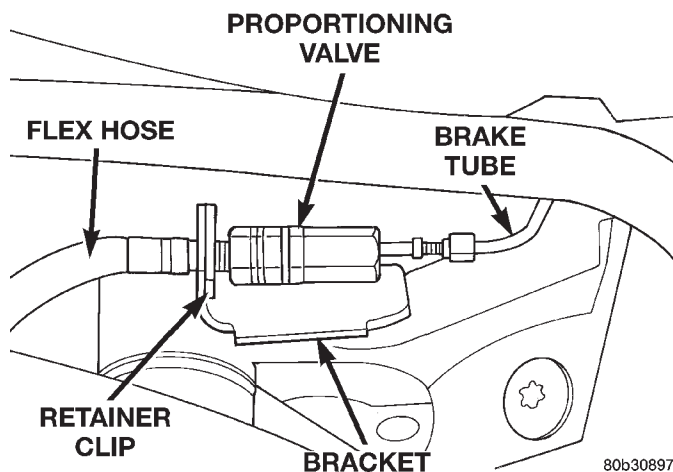

Fig. 60 Proportioning Valve
(1) Raise the vehicle on jack stands or centered on a hoist. See hoisting in the Lubrication and Maintenance section of this manual.
(2) Clean any debris away from the proportioning valve, connections, and area.
(3) Remove the chassis brake tube (Fig. 60) from the proportioning valve.
(1) Install the proportioning valve to the rear brake flex hose. Tighten to a torque of 17 N·m (145 in. lbs.).
(2) Install the chassis brake tube to the proportioning valve (Fig. 60). Tighten the tube nut to a torque of 17 N·m (145 in. lbs.).
(3) Bleed the affected brake line. See Bleeding Brake System in the Service Adjustments section of the manual for proper bleeding procedure.
(4) Lower the vehicle to the ground.